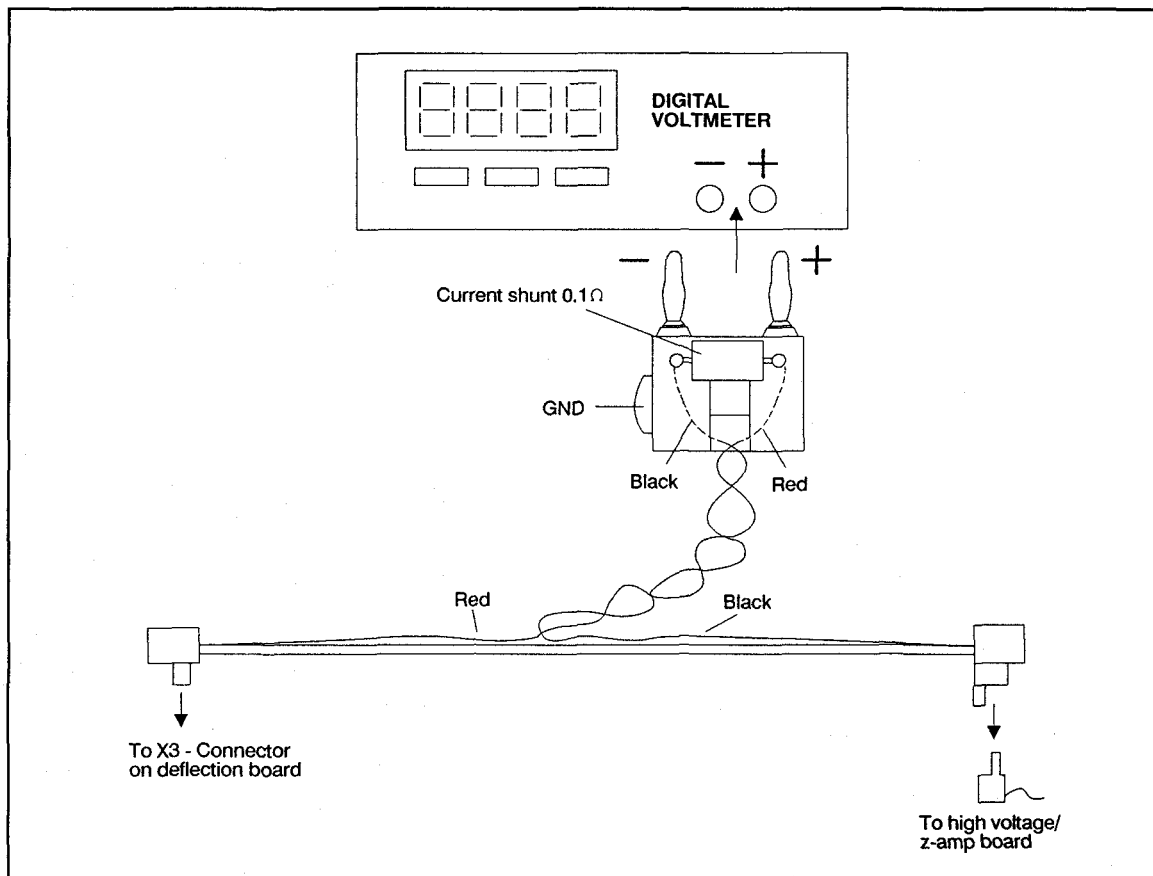

Figure 7-5. Deflection Board Current Shunt Installation
2. Plug the male connector of the current shunt into X3 on the wiring harness, and seat the female connector onto X3 on the Deflection Board. Refer to Figure 7-5.
3. Connect the current shunt to the DVM as illustrated in Figure 7-5, observing proper polarity.